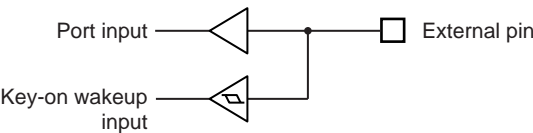

Figure 13-2 Key-on Wakeup Input and Port Input
- Note 3: The input circuit of Key-on Wakeup input and Port input is separated. As each input voltage threshold value is different. Therefore, a value comes from port input before STOP mode start may be different from a value which is detected by Key-on Wakeup input (Figure 13-2).